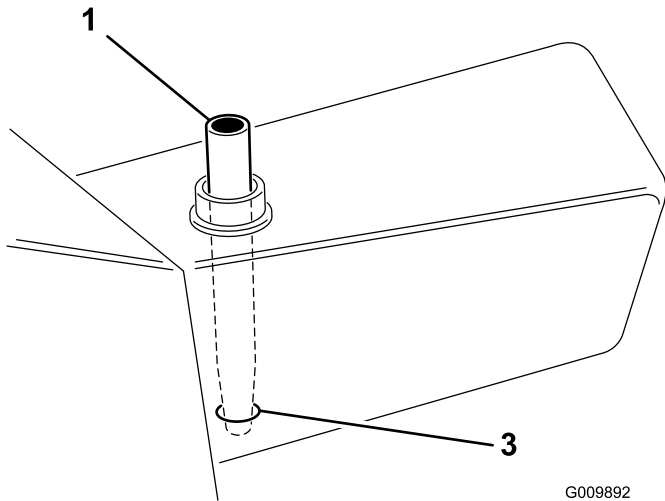

Figure 60
2. If only the filter is to be changed, remove the reservoir cap and insert the reservoir plug (Figure 60) to block the outlet. This will retain most of the fluid in the reservoir when the filter is removed.